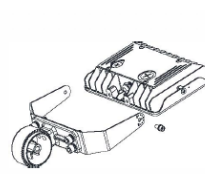

Fig. 5.3
1. Separate the bracket (Fig. 5.3).